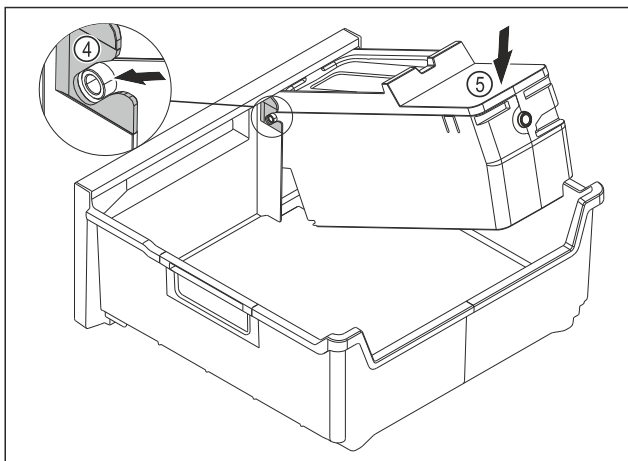

Fig. 152
- ▶ Installing the EasyTwist-Ice body: Push the axes for the EasyTwist-Ice body into the guides Fig. 152 (4).
- ▶ Press the EasyTwist-Ice body Fig. 152 (5) down at the back.